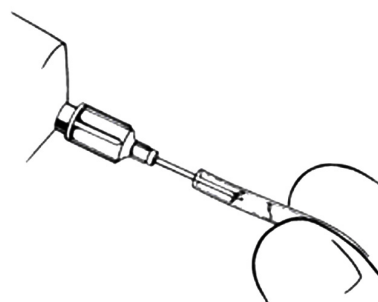

Figure 4-32. Flush Tubing and Connector
3. Use 22-gauge needle and 10 cc syringe filled with filling solution to flush connector and tubing **(Figure 4-32)** to remove particulate matter and air.